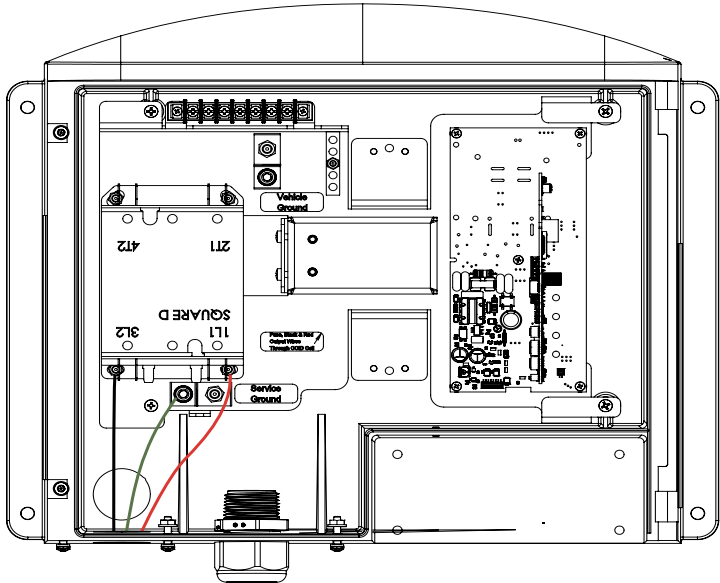

Figure 7: 208/240 VAC power wiring instructions
- Only three wires are needed to wire the CS-100: **Line 1**, **Line 2**, and service **ground**, as shown in Figure 7. Wire the unit from the breaker panel using wire sized in accordance with local electrical codes. The circuit breaker should be rated for 100 A to be 25% over the EVSE's max continuous output.
- Line 1 and line 2 phases are terminated on the input side of the contactor itself, as shown in Figure 7. The service ground is terminated on the ground terminal at the bottom of the enclosure.